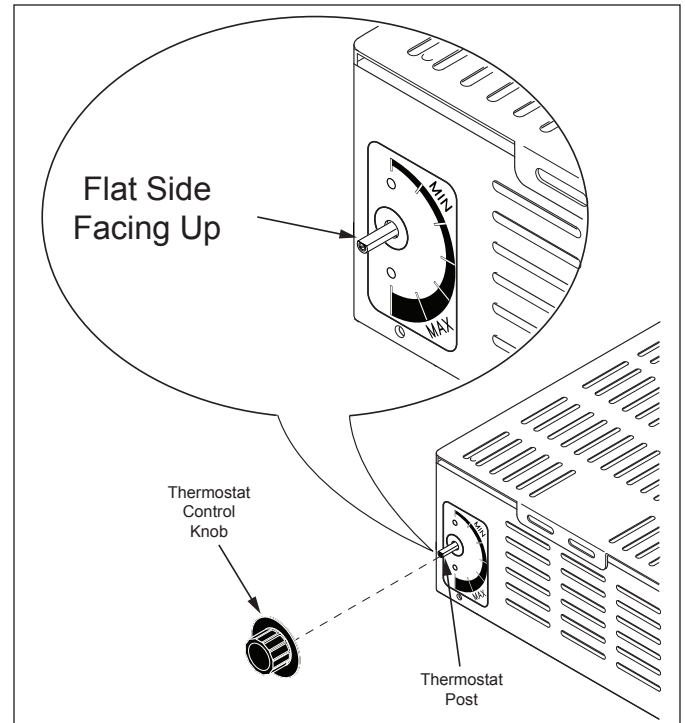

Figure 5. Replacing the Thermostat Control
3. Turn the Thermostat Post by hand so the flat side is facing up (Figure 5).
4. Carefully install the Thermostat Control onto the Thermostat Post (Figure 5), and tighten the set screw.